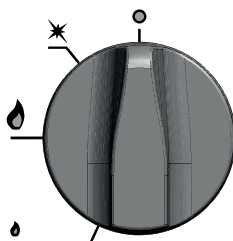

Figure 8. Setting a knob in the position, in which the gas supply to the burner is completely cut off.
- Make sure that all the knobs of the unused burners are in the „closed burner” position (Fig.8)
- When the burner is not longer in operation, close the gas supply by turning the pilot knob clockwise to the „closed” position (Fig. 8). **Attention! When using LPG, before switching off the burner with the knob, the cylinder valve must be closed!**